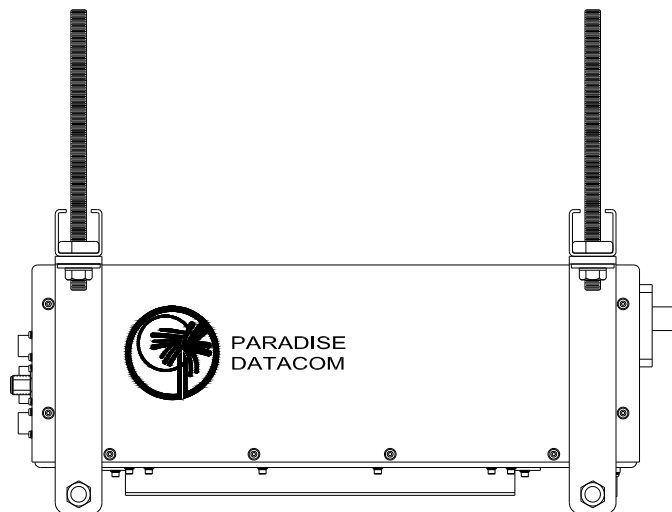

Figure 2-11: Unit Ready for Boom Installation
2. Place one piece of Uni-Strut (open channel up) at each end of the CO unit, across the flanges of the mounting brackets, lining up the holes. For each **All-Thread stud**, run on a ½” **nut** approximately 1” from the rod end. Slip on a **lock washer**, and thread the short end of the stud through the Uni-strut and mounting flange. Secure firmly in place with a **flat washer** and **nut**. The unit should now look as shown in Figure 2-11.